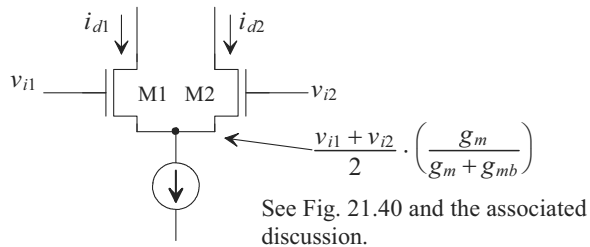

Figure 22.38 How body effect changes the AC behavior of the diff-amp.
- 22.8** For the n-channel diff-pair shown in Fig. 22.38, show that the following relationships are valid if the body effect is included in the analysis of the transconductance.